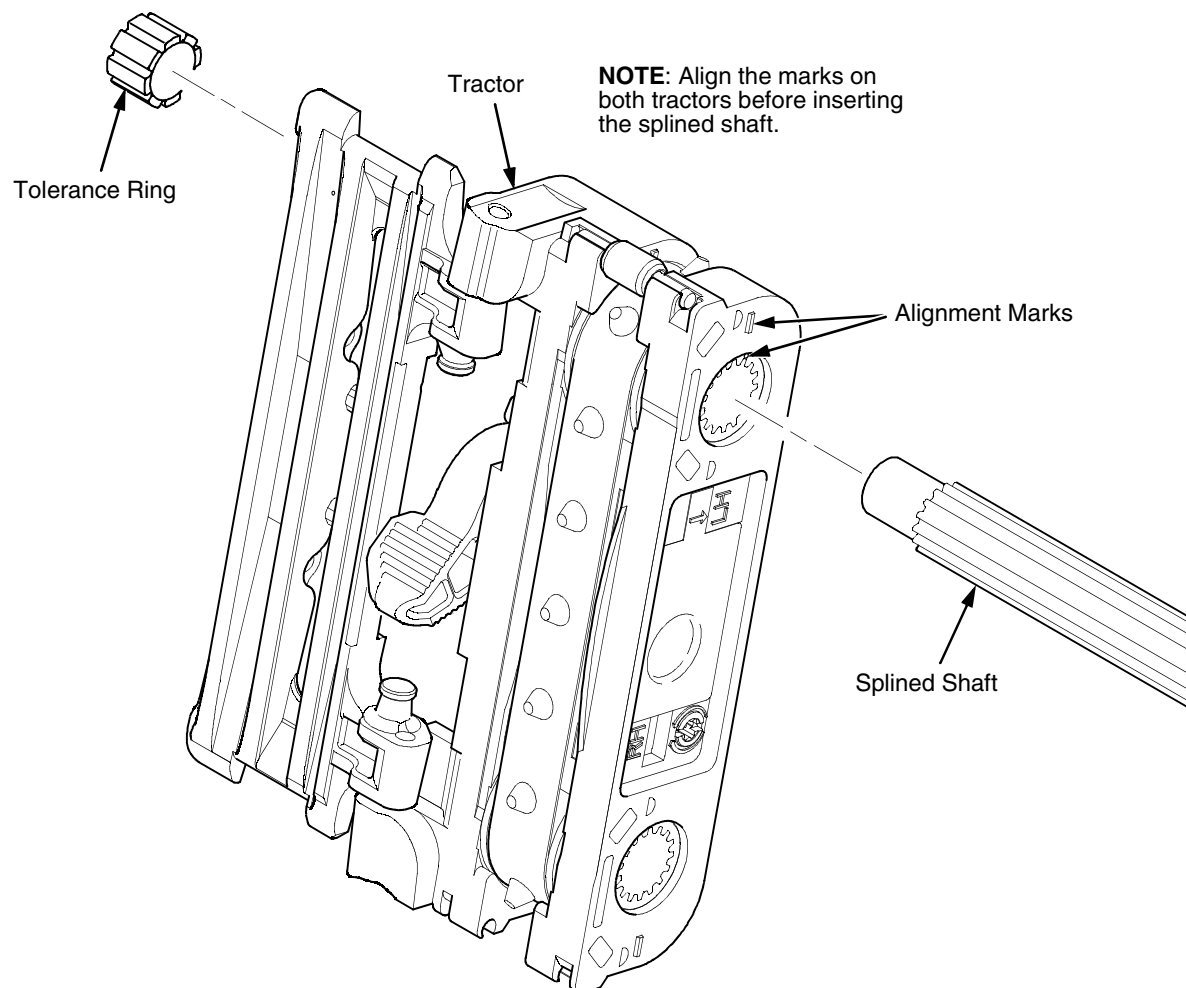

Figure 23. This figure shows how to install the splined shaft into the paper feed tractors.
1. Open the doors on the left and right tractors. Position the tractor belts so the alignment marks are at the top on both tractors. (See Figure 23.)
2. Grasping the vertical adjustment knob, slide the splined shaft through the right side plate and tractors. Make sure the same spline passes the marked groove on each tractor. (See Figure 23.)
3. Install the tolerance ring on the left end of the splined shaft (page 429, item 5).
4. Insert the tolerance ring lead-in portion into the sealed ball bearing in the left tractor shaft plate (page 429, items 3, 5, and 6) while sliding the ball bearing into the right side plate. Push the splined shaft to the left until the flange on the ball bearing is in solid contact with right side plate. The splined shaft will protrude about 1/16 inch from the ball bearing.
5. Install the right tractor shaft plate and screw (page 429, items 7 and 8) by first sliding the upper “fingers” up and against the flange on the ball bearing, then sliding the rectangular cutout over the support shaft end, then snapping the U-shaped “spring” behind the tab on the right side plate.
8. Install the paper supports on the splined and support shafts. (See page 429, item 4.)